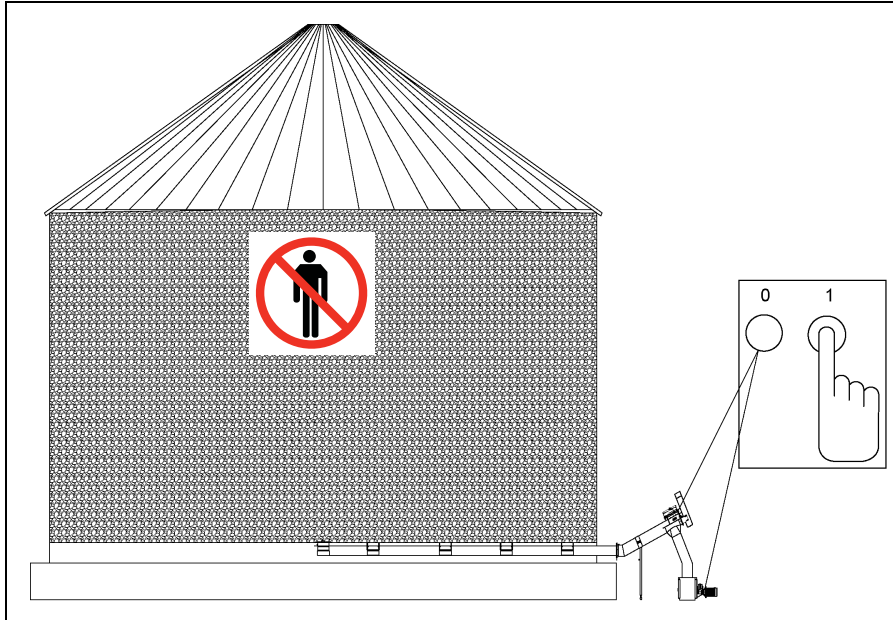

Figure 6A
1. Start unload system. (See Figure 6A.)